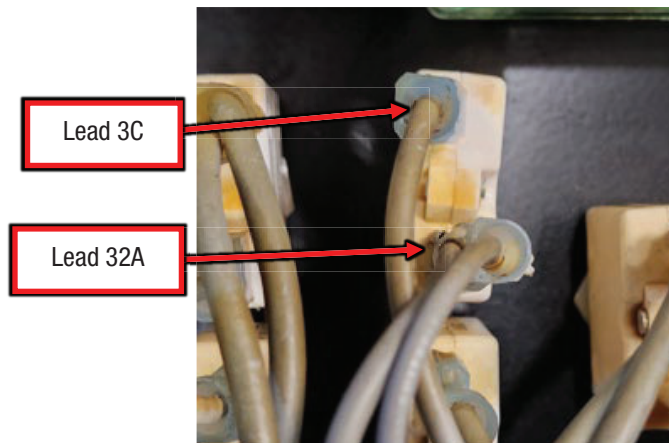

Figure F.2
A.2. Label and disconnect the following connections on CB2, refer to Figure F.2.